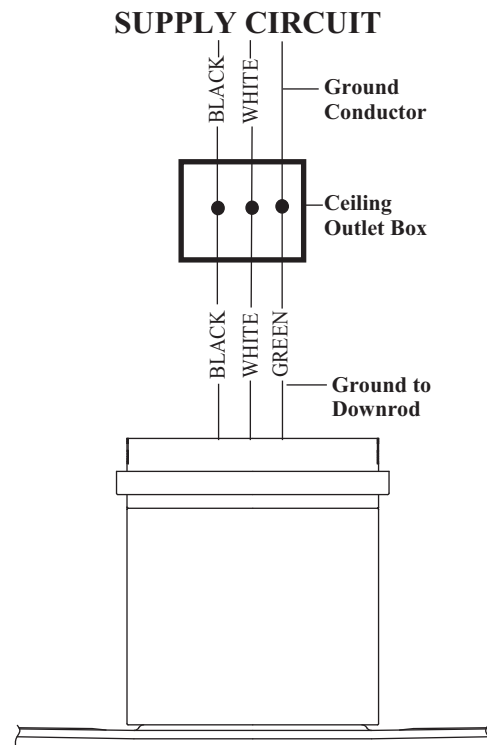

Figure 11
1. Connect the fan supply (black) wire to the black household supply wire (Conductor cable between ceiling and wall outlet box). (Fig. 11)